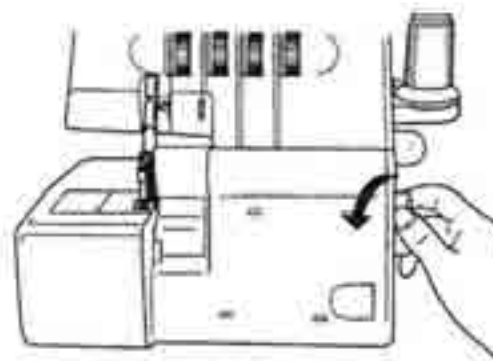

Fig.9b
1. Turn the handwheel **6** towards yourself until the needles are in the highest position (Fig. 9b)
Always turn the handwheel **6** only towards yourself (Fig. 9b).